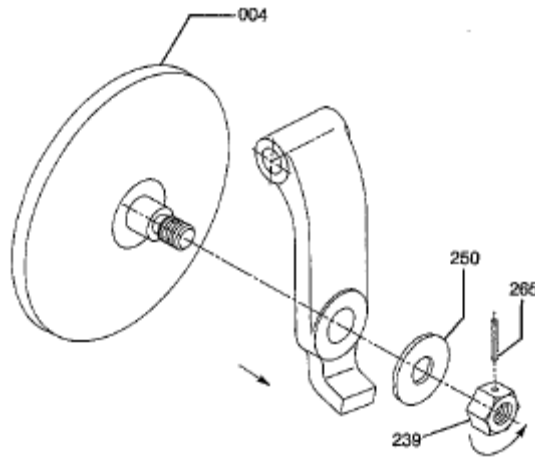

FIGURE 16
5.1.2.4 Disc/Hinge Assembly (Fig. 16)